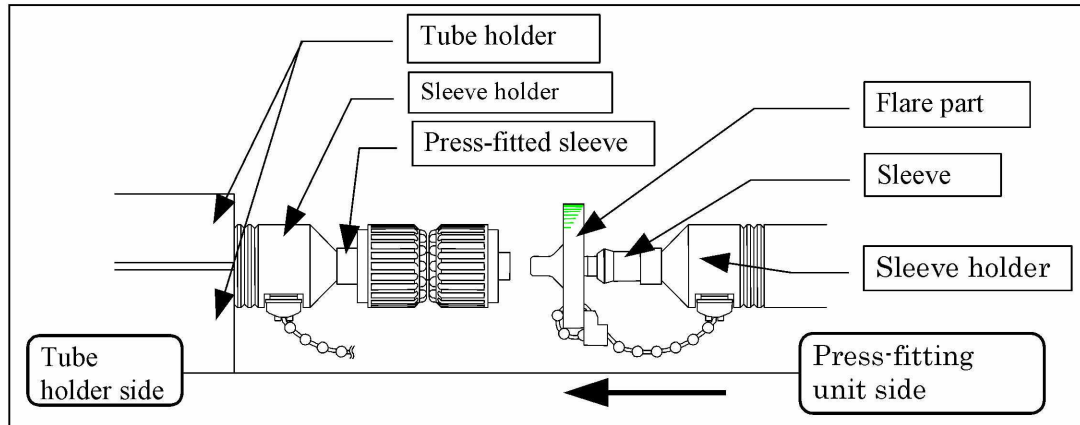

Fig. 46 - Parts arrangement (3, 4, W1)
- Loosen the knob located at the bottom of the tube holder, position the tube holder so as to allow the arrangement shown in Fig. 46, and then retighten the locking knob to secure the unit.
- Put the union nuts on the tube, set the inserted sleeve in sleeve holder for short tube, and then fix the sleeve holder to the $\phi 6$ portion of the tube holder (see Fig. 46 and refer to Table 18 for applicable parts).